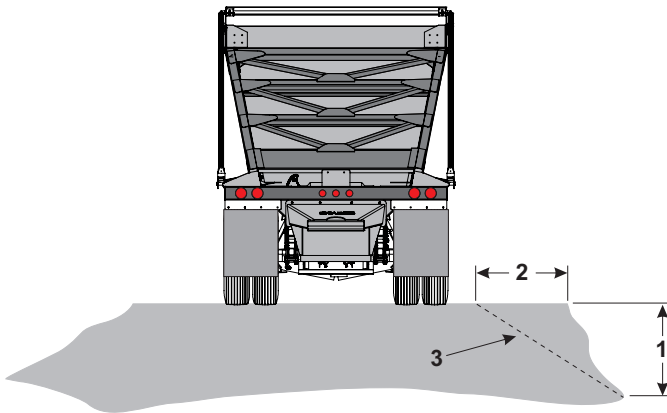

Figure 2-4 – Road Edge Shear
- Be extremely cautious when operating near a ditch or embankment where loose or soft ground conditions could cause the surface to give way under the trailer, causing it to become unstable. If there is a drop off along the edge of the roadway (1, **Figure 2-4**), a shear line can be created (3, **Figure 2-4**). The shear line is the distance from the drop off into the roadway, equal to the depth of the drop off (2, **Figure 2-4**) – i.e. a 6 foot drop off requires driving no closer than 6 feet from the edge of the roadway. Increased ground pressure caused by the loaded trailer can cause the roadway to shear, or collapse under the trailer.